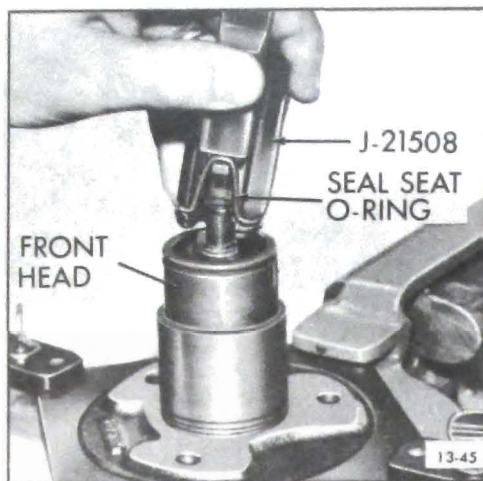

Figure 13-68 Installing Seal Seat 'O' Ring
1. Coat the new seal seat "O" ring with clean refrigeration oil and install it in its groove in the compressor neck. Tool J-21508 may be used to accomplish this (see Figure 13-68).